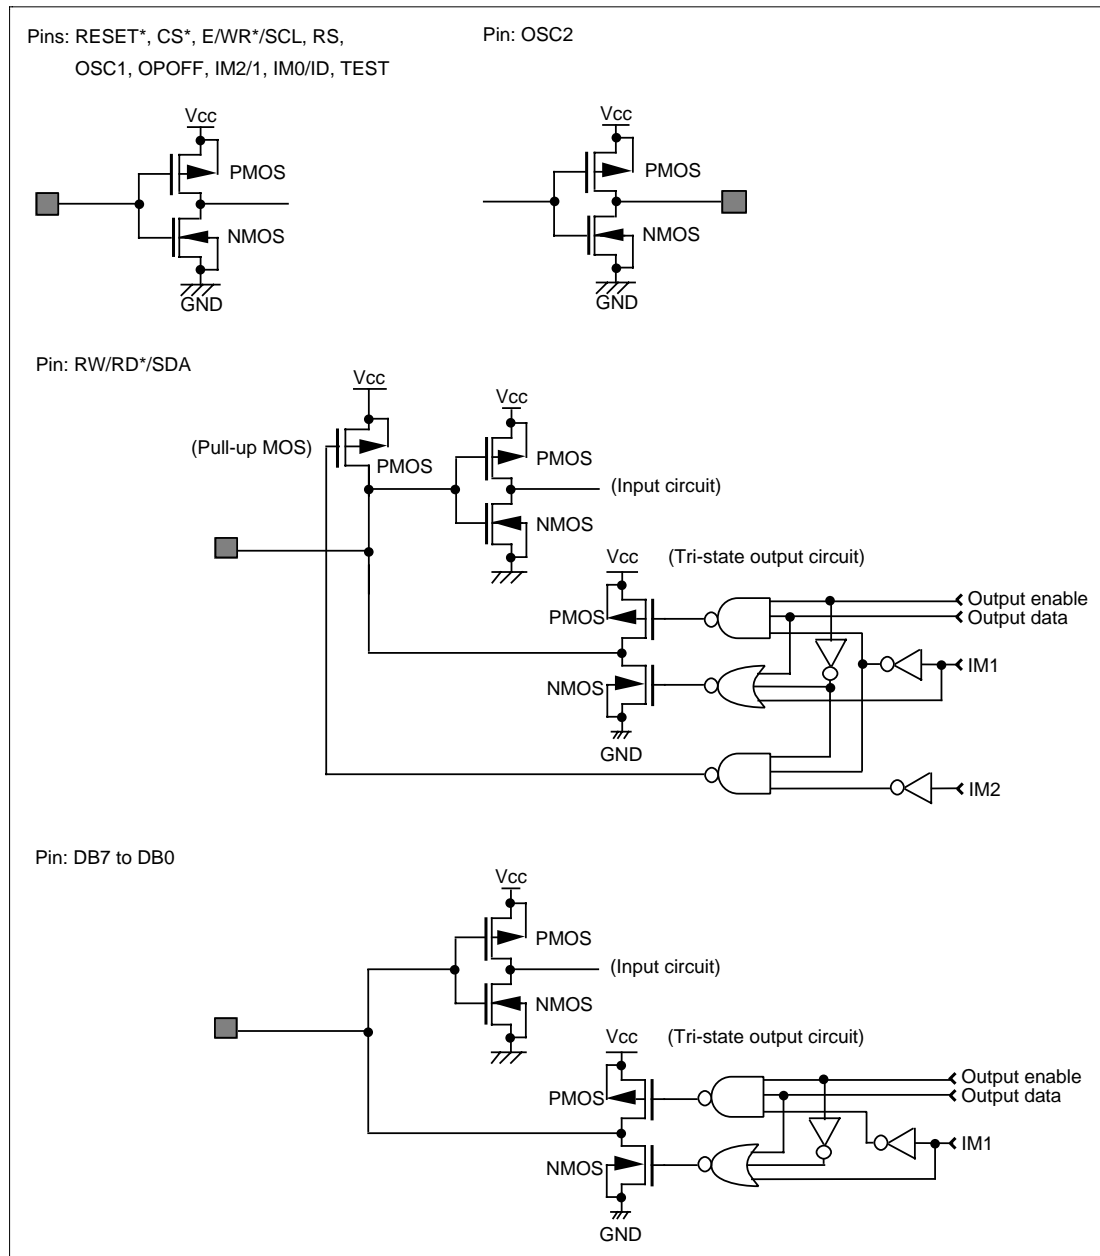

Figure 41 I/O Pin Configuration
2. The following three circuits are I/O pin configurations (figure 41).
- Change figure 41 (remove pull-up MOS from DB7 to DB0)